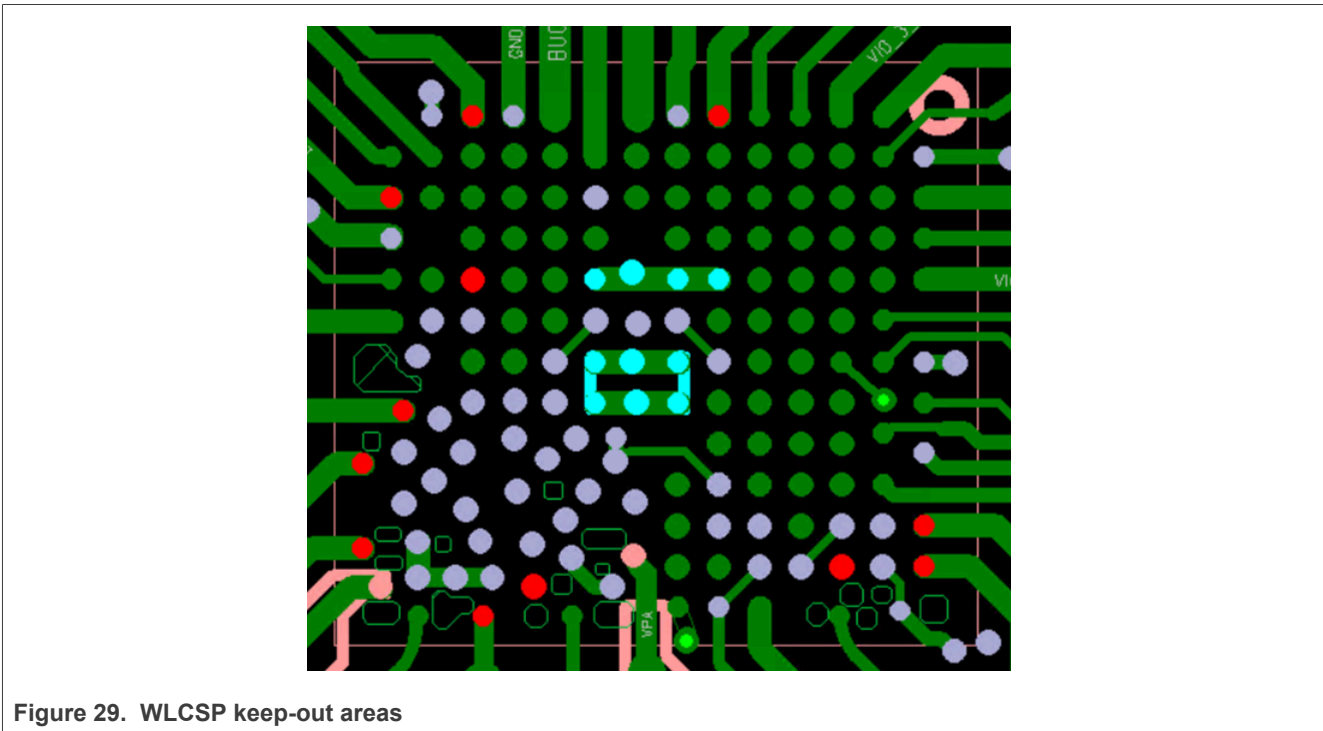

Figure 29. WLCSP keep-out areas
- For the WLCSP package only, do not route any signal traces, power planes, ground planes over the on-chip inductor keep-out areas. The keep-out areas of the on-chip inductor are highlighted in Figure 29.